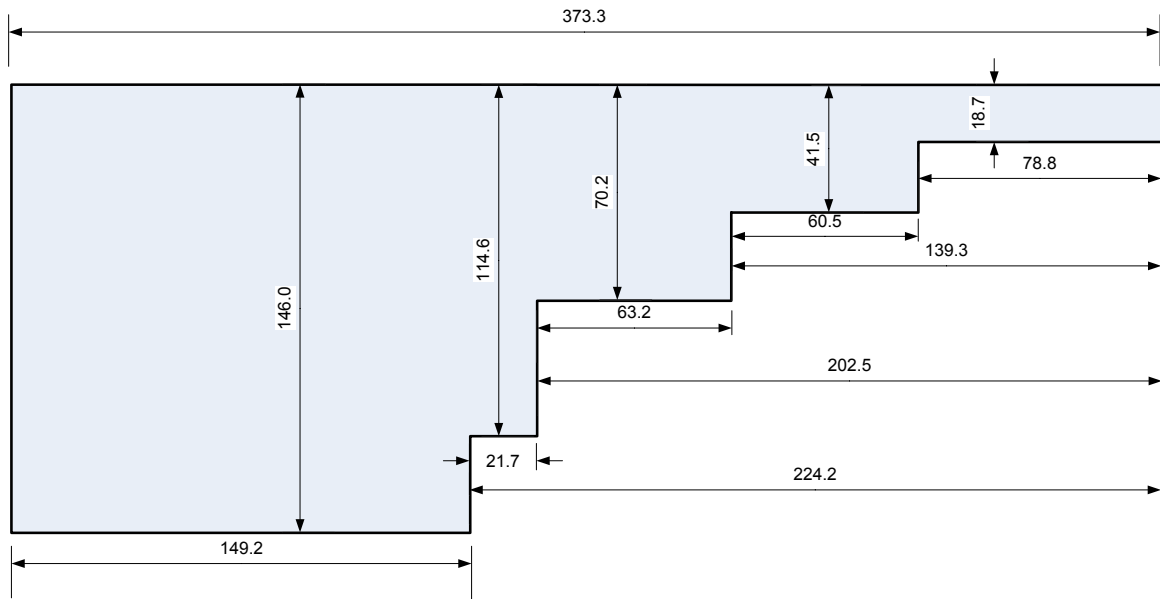

FIGURE 1. SEPTUM DIMENSIONS
2. Adjust size of septum to optimize circularity – Inside waveguide measurement = 5.75 inches, so the rest of the septum dimensions are based on this dimension which equates to 1286 MHz. So using the OK1DFC spreadsheet just enter a frequency of 1286 MHz and the spreadsheet gives you the same numbers as I have in Figure 1, below.
See Appendix 1, "Bill of Materials" for a list of what is required for this project. I did not include parts for my mounting method. Dimensions for the septum are in Figure 1, below. Dimensions for the rear wall, probes and disks are in Figure 2, below. All parts are pictured in Figures 3 and 4 below.
2. Cut and file septum according to OK1DFC spreadsheet with F= 1286 MHz (See Figure 1). The straighter and smoother you get the top and bottom edges, the easier it will slide into the tube. To cut the septum it is best if you use power tools. A hand saw would be very tedious for this. A band saw is best, to get the most accurate cut to minimize filing. After very careful measuring and marking, I cut away a large piece of unnecessary material first.